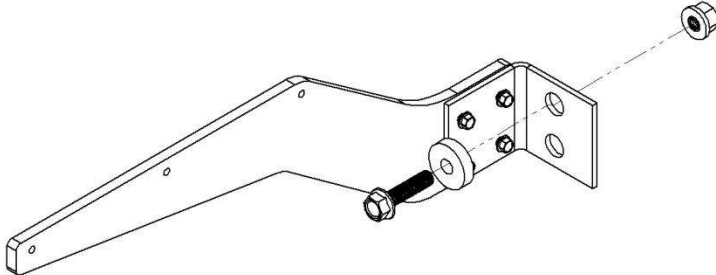

Figure 11
A. Install center bracket assembly (Figure 11).